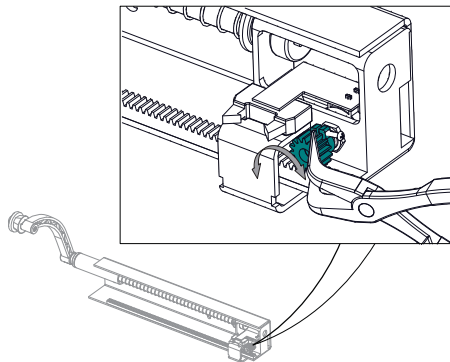

Fig. 17:
5. keeping the calliper in stand-by, turn the potentiometer using nose pliers (fig.17) to the value of 1000 ± 50 ;